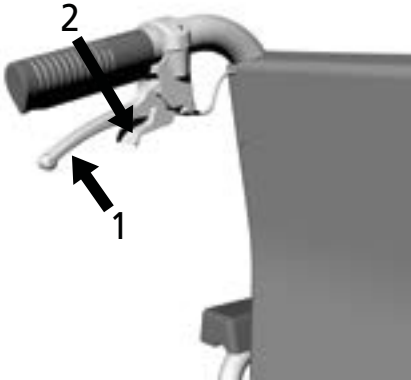

fig. 14
Pull evenly on both brake levers (1, fig. 14).
1. Pull on both brake levers (1, fig. 14).
2. Push the safety catch away from yourself until it engages (2, fig. 14). The drum brake is now locked.